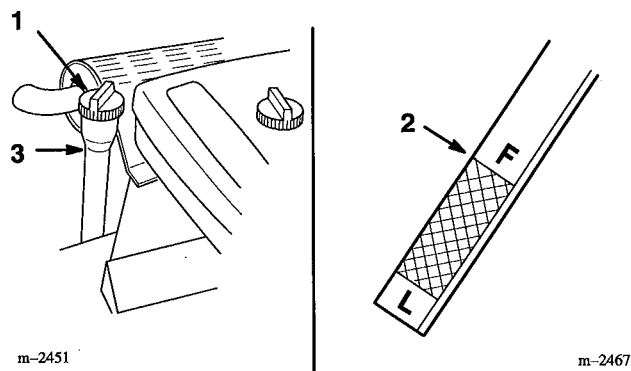

Figure 18
3. Clean around the oil dipstick (Fig. 18) so dirt cannot fall into the filler hole and damage the engine.
4. Unscrew the oil dipstick and wipe the metal end clean (Fig. 18).
5. Slide the oil dipstick fully into the filler tube, do not thread onto tube (Fig. 18). Pull the dipstick out and look at the metal end. If oil level is low, slowly pour only enough oil into the filler tube to raise the level to the "FULL" mark.
6. Slowly pour approximately 80% of the specified amount of oil into the filler tube (Fig. 18). Now check the oil level; refer to Checking Oil Level, page 21. Slowly add additional oil to bring to "FULL" mark on dipstick.